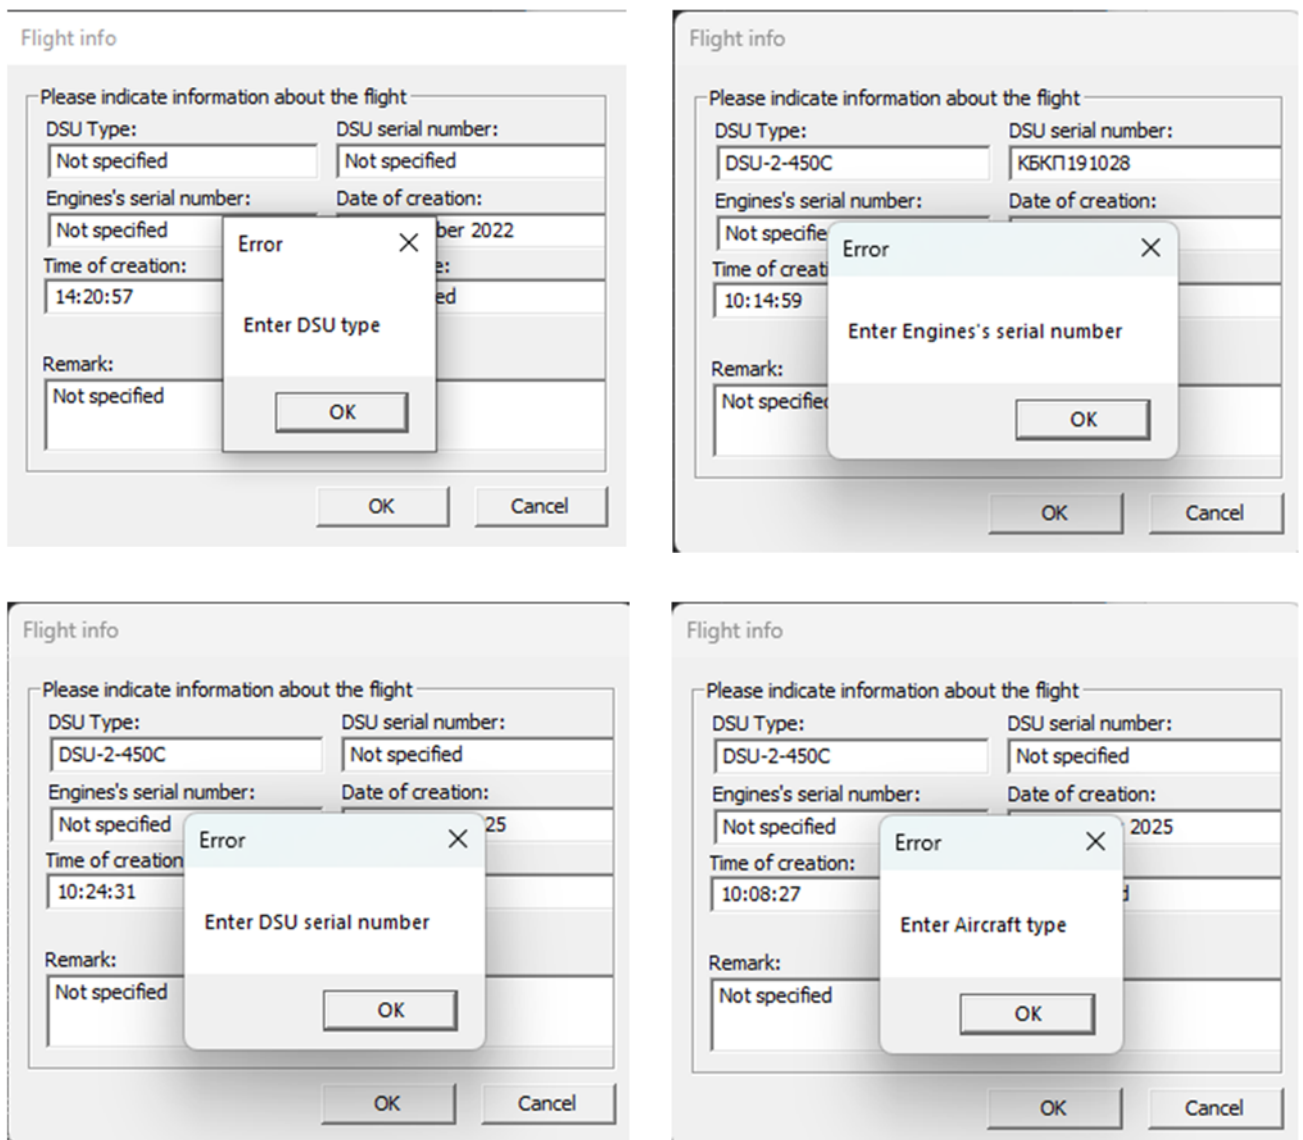

Figure 9 – Error messages when not filled in by the operator corresponding required field
3.9 The fields «DSU Type», «Engines's serial number», «DSU serial number», «Aircraft type» in the «Flight info» window is required to be filled in with current information, and if they are not filled in, the program generates appropriate error messages (Figure 9) with blocking of further operations for reading information.